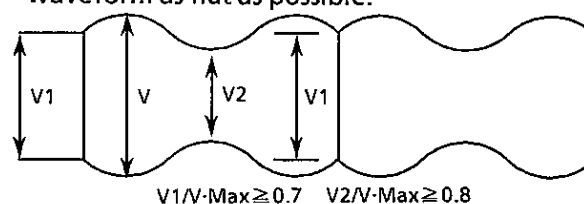

Figure 7-7-2(a).
- 2) Observing the waveform of the RF output, shift the RF output by 1/4 by using the track shift jig, and check the flatness. If the waveform of the RF output is roughly flat when the output is shifted by 1/4, the result is satisfactory. If not, adjust GR-S1 and GR-T1. While the standard flatness is as shown by Fig. 7-7-2(a), adjust the waveform as flat as possible.